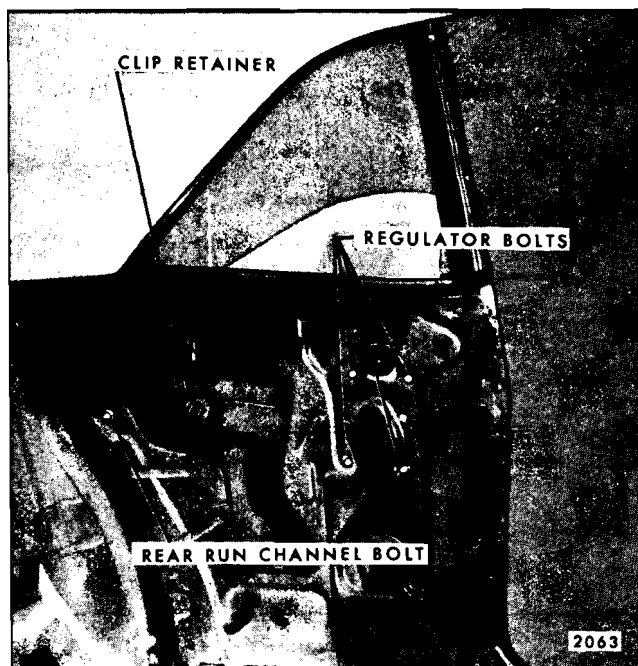

Fig. 7-42—Rear Quarter Hardware Attachment - "A, B, & X" Closed Styles
4. Remove regulator attaching bolts. Figure 7-42 is typical of closed style regulator attachment.